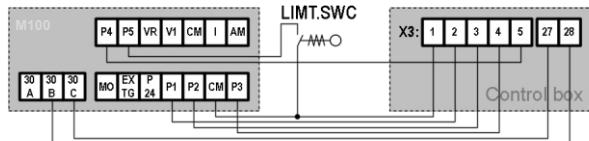

Figure 2a
- Wire the I/O terminal and the terminal X3 of the control box CG according to the Figure 2a